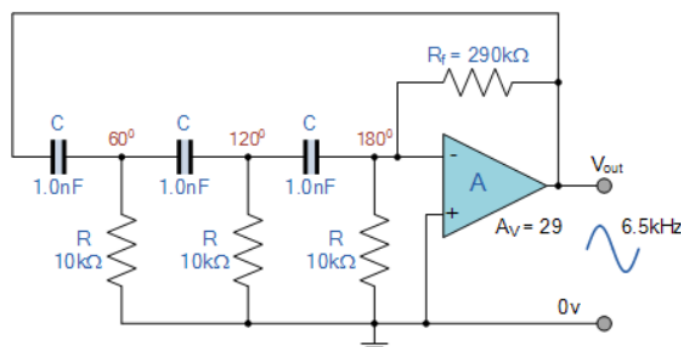

Figure 2: RC-Phase Shift Oscillator by using op-amp
1. Make a circuit as shown in figure 2.